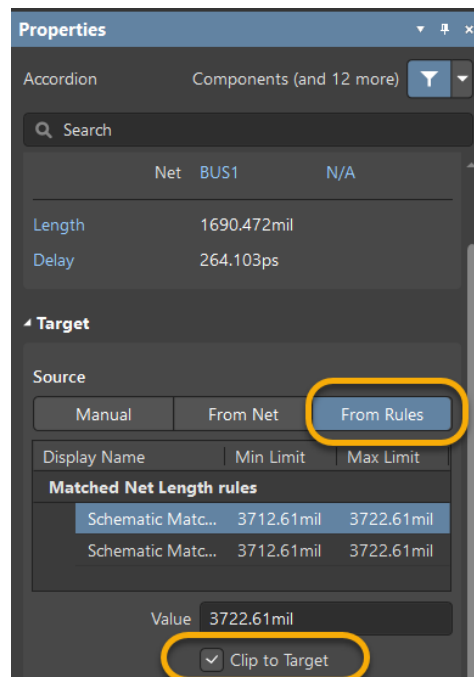

Figure 18. Length Tune from the Length Rule
- a) From the *Properties* panel, in the *Target* section, ensure the *Source* is set to **From Rules**, as shown in Figure 18.